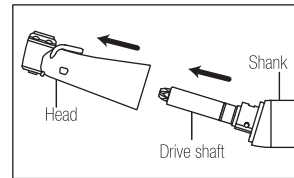

Fig. 7
- 4) Pull out the head from the shank. (Fig.7)
- 5) Pull out the Drive shaft from the shank. (Fig.7)